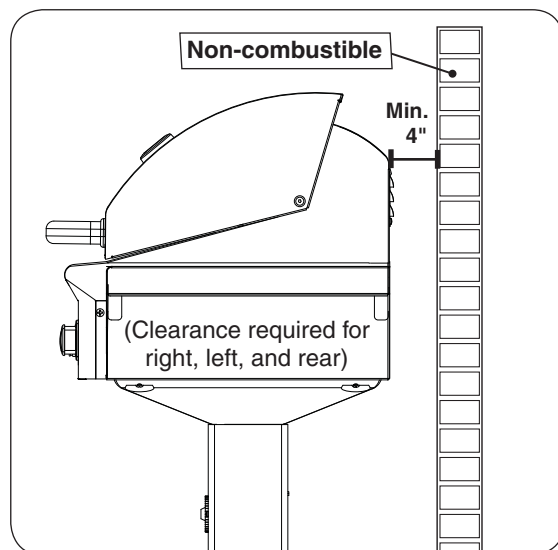

Fig. 8-2 Clearance 'B' Diagram
B. Clearance between grill and strictly non-combustible wall (i.e. brick wall, see Fig. 8-2)